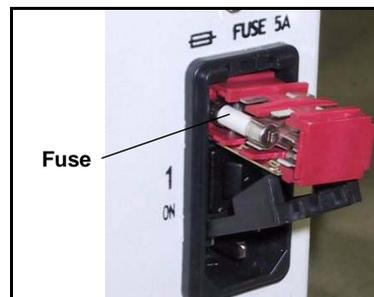

Figure 5-9. Removing the Fuse Holder
4. Slide the fuse holder out of the input panel (see Figure 5-9).